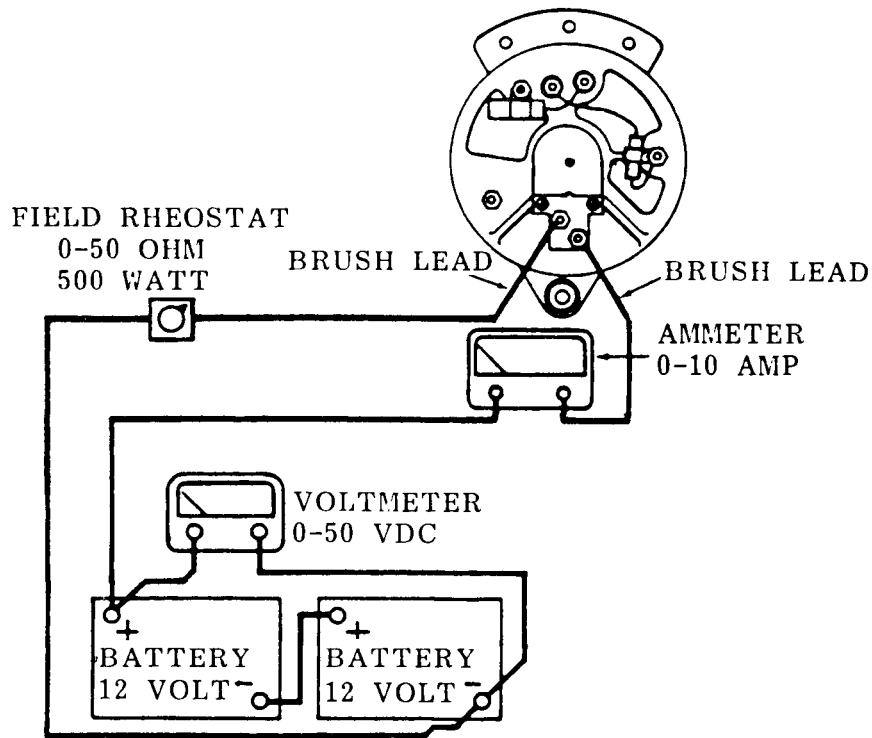

Figure 7-14. Field Current Test.
- (a) Install the ammeter in test circuit as shown in figure 7-14.